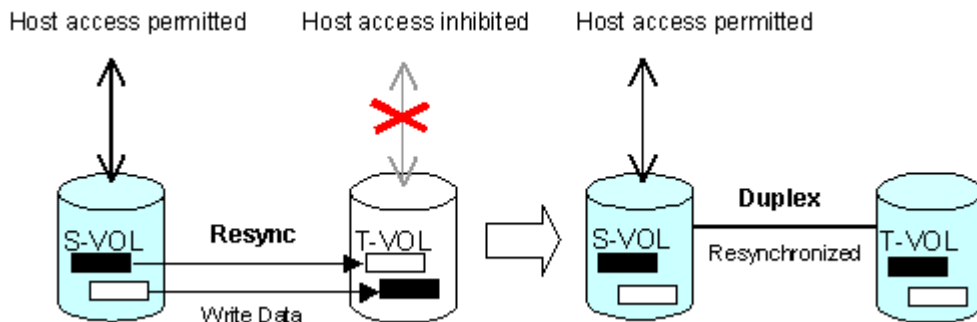

Figure 83 Forward pairresync operations
- **Normal.** The normal resync operation (see Figure 83) resynchronizes the T-VOL with the S-VOL. The copy direction for a normal resync operation is S-VOL to T-VOL. The pair status during a normal resync operation is *resync*, and the S-VOL remains accessible to all hosts for both read and write operations during a normal resync operation. The T-VOL becomes inaccessible to all hosts during a normal resync operation.
- **Quick.** The quick resync operation (see Figure 83) speeds up the normal resync operation without copying the S-VOL data to the T-VOL. The S-VOL and the T-VOL are resynchronized when update copy operations are performed for duplex pairs. The pair status during a quick resync operation is *resync*, and the S-VOL remains accessible to all hosts for both read and write operations. The T-VOL becomes inaccessible to all hosts during a quick resync operation.